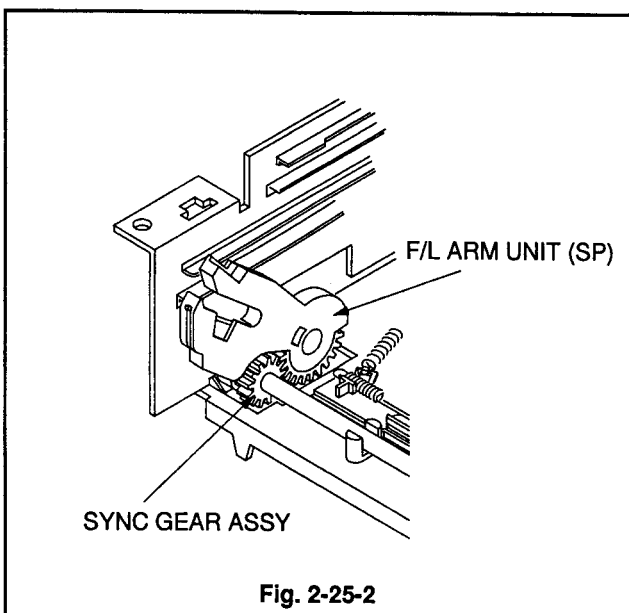

Fig. 2-25-2
2. Install the F/L ARM UNIT (SP) so that the gear of the F/L ARM UNIT (SP) and that of the SYNC GEAR ASSY are engaged as shown in Fig. 2-25-2.